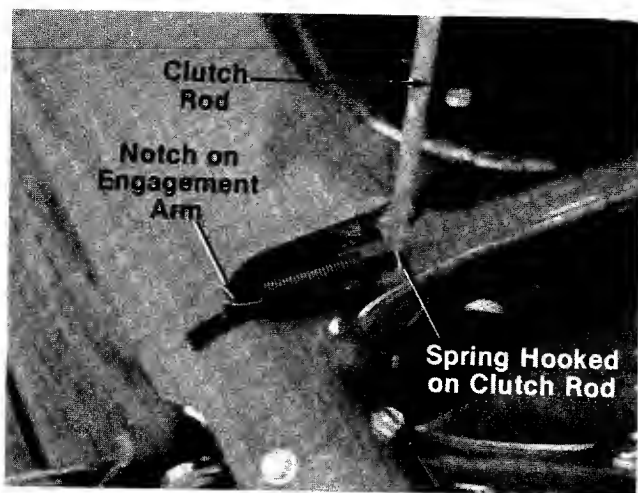

FIGURE 10.
17. Thread the ferrule (H) onto the threaded end of the clutch rod (I) a few turns.
18. Hook the short end of the spring (J) into the notch on the engagement arm. See figure 10. Hook the longer end of the spring into the notch on the bent end of the clutch rod.
19. Pull the clutch rod forward and slip it into the slot on the engagement arm as shown in figure 10.
1. Remove the cotter pin. See figure 10.